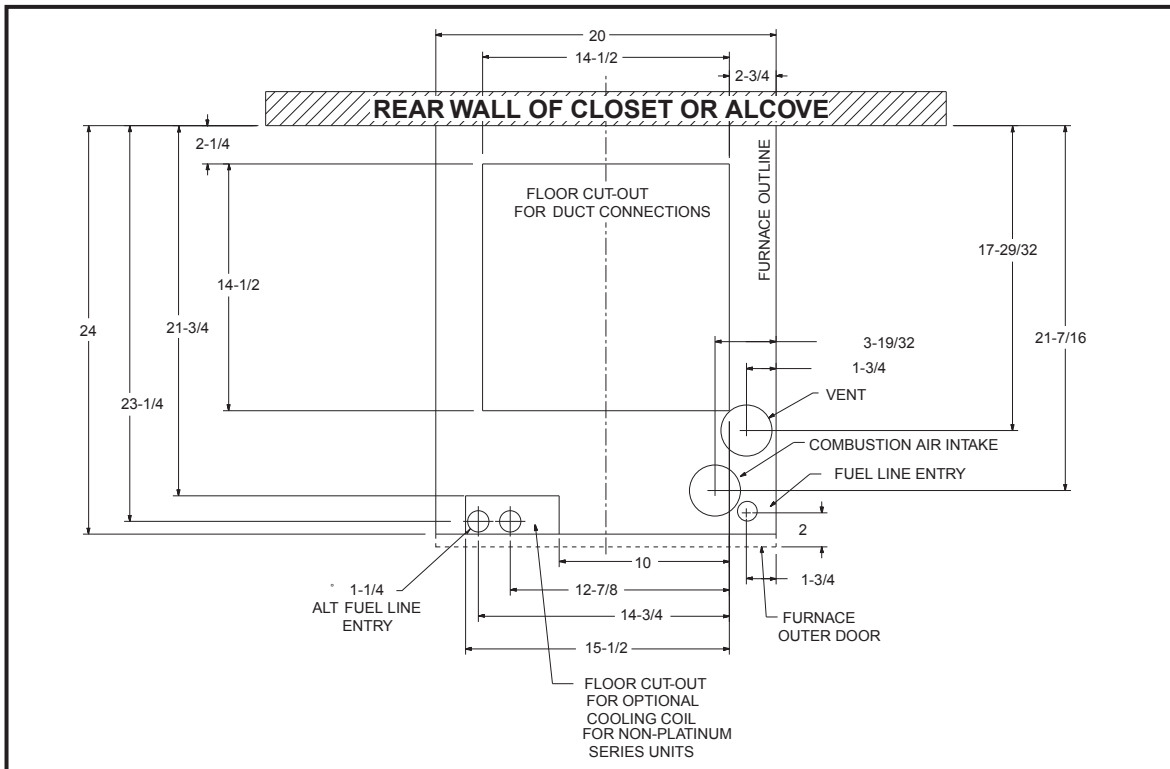

Figure 7. Floor Cut-Out Dimensions
- Determine center of closet or alcove (Figures 7 & 8).